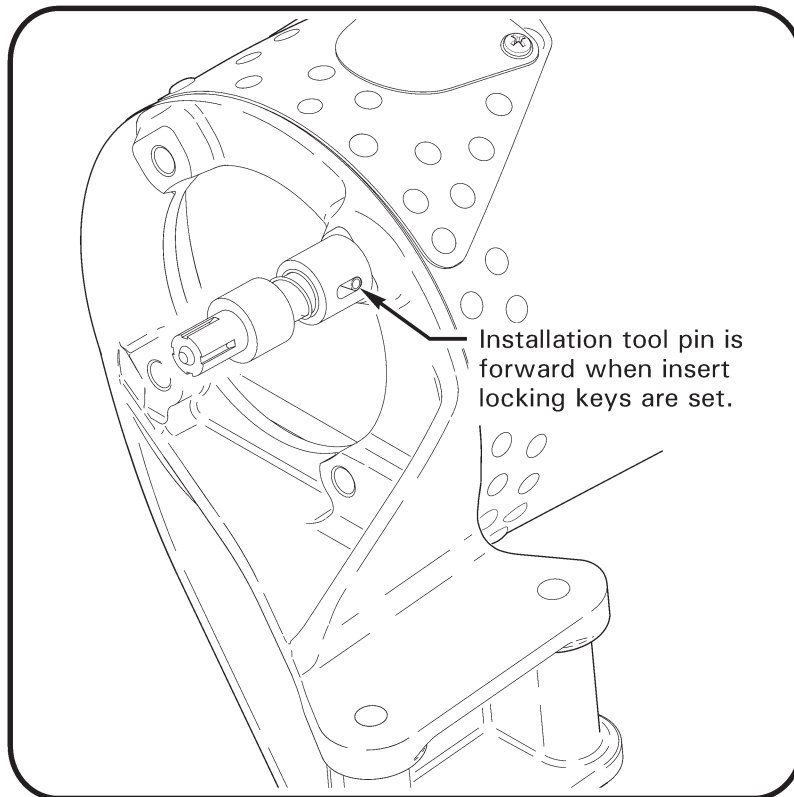

FIGURE 4 Insert locked in position
7. Refer to Figures 4 & 5. Place opposite end of installation tool over locking keys. Drive keys with several hammer taps on end of installation tool until pin (in slot of installation tool) is forward, indicating locking keys are set. Remove tool and verify keys do not protrude above bulkhead aft surface. Clean up debris.
9. Install C021 tail rotor gearbox per MM § 7.420 using (4) NAS1149F0532P washers & (4) NAS1352-5-12P bolts. Special torque per MM § 1.330.